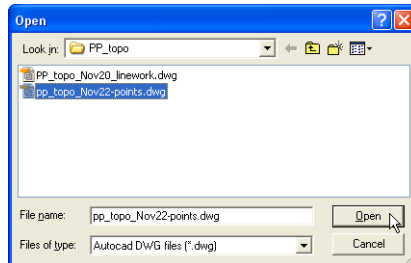

Figure 3-8. Select File and Click Open
2. On the **Open** dialog box, select the desired file and click **Open** (Figure 3-8). The AutoCAD entities are imported into 3D-Office.